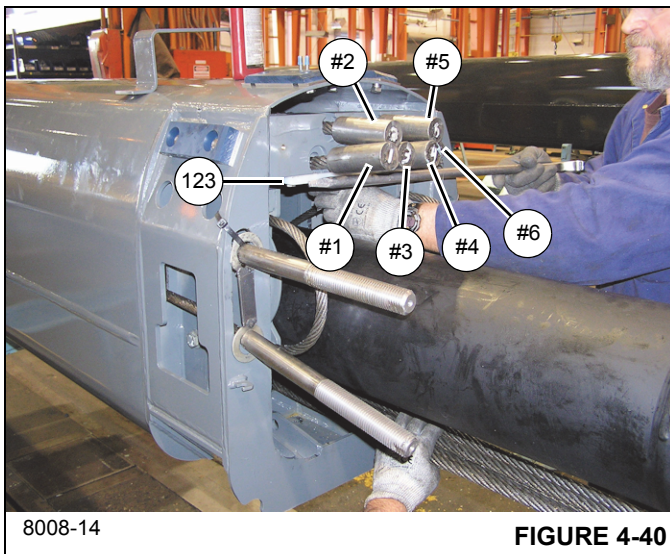
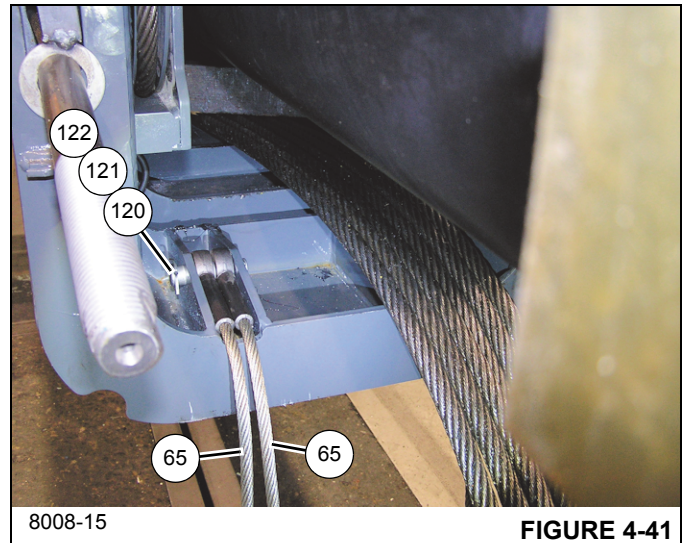

FIGURE 4-40
FIGURE 4-41
48. Install the grease fitting (106) into the shaft of the sheave mount weldment (117) (left and right sides). Add grease until the grease extrudes through the sheaves.
49. Install the two tele 3 extend cables (150), labeled 2 and 5, into the anchor points at the rear of tele 3 (4) (see Figure 4-40).
50. Install the four tele 3 extend cables (150), labeled 1, 3, 4, and 6, into the anchor points at the rear of tele 3 (4) (see Figure 4-40).
51. Mount the cylinder wear pad (123) to the top of the anchor point at the rear of tele 3 (4) using the two bolts (124) and lock washers (25) (see Figure 4-40).
52. Pull the six tele 3 extend cables (150) until they seat into the anchor points at the rear of tele 3 (4).
53. Attach the cable keeper (125) to the rear of tele 3 (4) using the two bolts (124) and lock washers (25).
54. Attach the two tele 3 retract cables (65) to the rear of tele 3 (4) using the pin (120), two flat washers (121), and two cotter pins (122) (left and right sides) (see Figure 4-41).